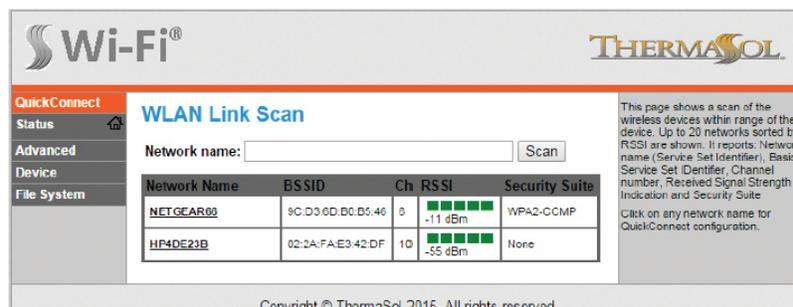

Figure 19: QuickConnect WLAN Link Scan list
4. Find and select the name of your local WLAN Wi-Fi access point in the list of available devices in the QuickConnect WLAN Link Scan as shown below in Figure 19 (“NETGEAR66” WLAN Wi-Fi access point device is used in this guide for illustration purposes. Customers WLAN Wi-Fi access point name may differ)